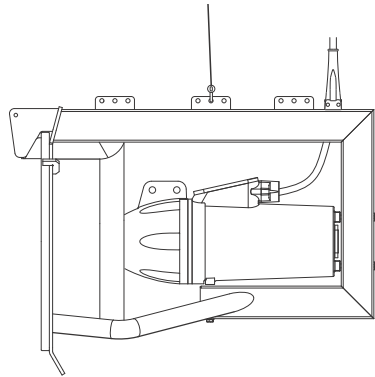

Fig. 6 Mounting of lifting wire on the pump rack
14. Mount the lifting wire on the pump rack using the shackle. See fig. 6.